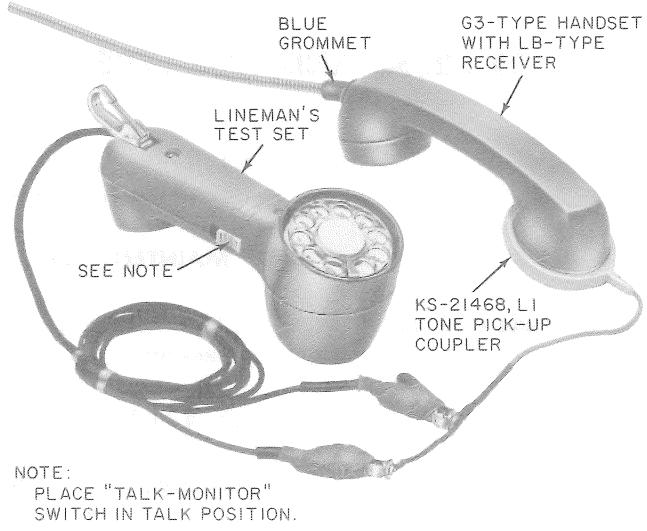

Fig. 17.1—KS-21468, List 1 Tone Pick-up Coupler
- (b) Fig. 17.1—added
- (a) Place a KS-21468, List 1 tone pick-up coupler (Fig. 17.1) on the receiver cap of handset.